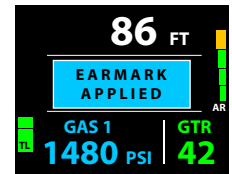

Fig. 40C - NO DECO MAIN (during 3 sec message)
- > TLBG (TL), VARI (AR) - if they apply.
- M (< 2 sec) - to apply a snapshot Earmark to the PCI data recorded at that time. *The graphics EARMARK APPLIED will be displayed in place of NDC for 3 seconds (Fig. 40C).*